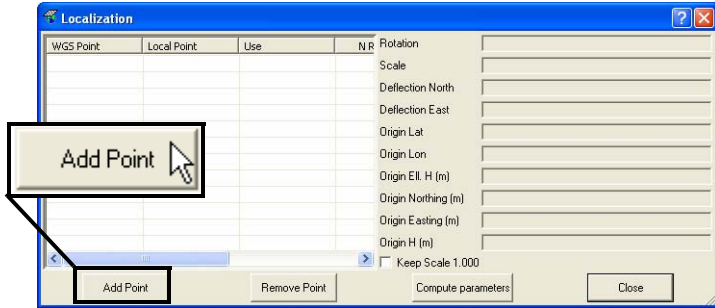

Figure 6-42. Add Point to Localize
- To perform localization using these two sets of coordinates, click **Process** ► **Localization** or press **Shift+F8** to open the **Localization** dialog box. Click **Add Point** (Figure 6-42).